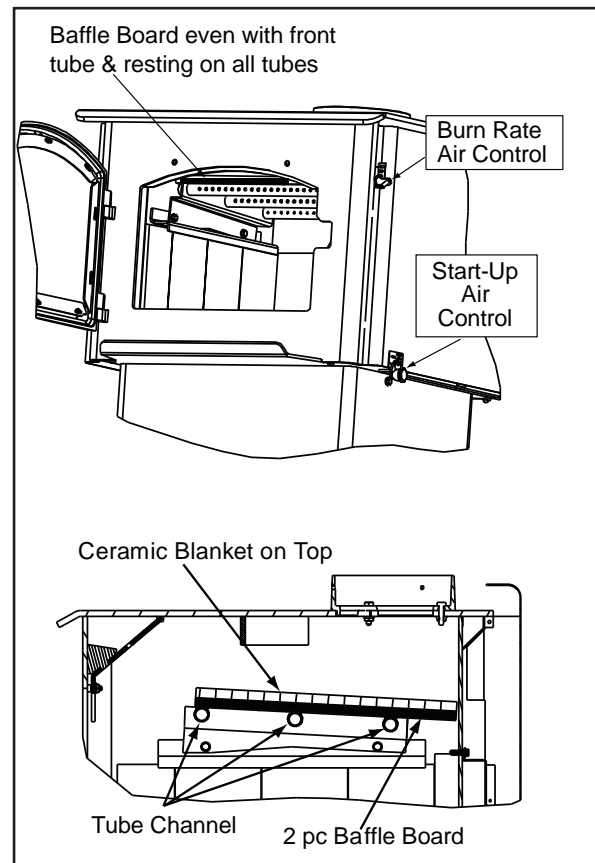

Figure 23.1
1. Confirm the baffle is correctly positioned. It should be even with the front tube and resting on all tubes. **Figure 23.1.**